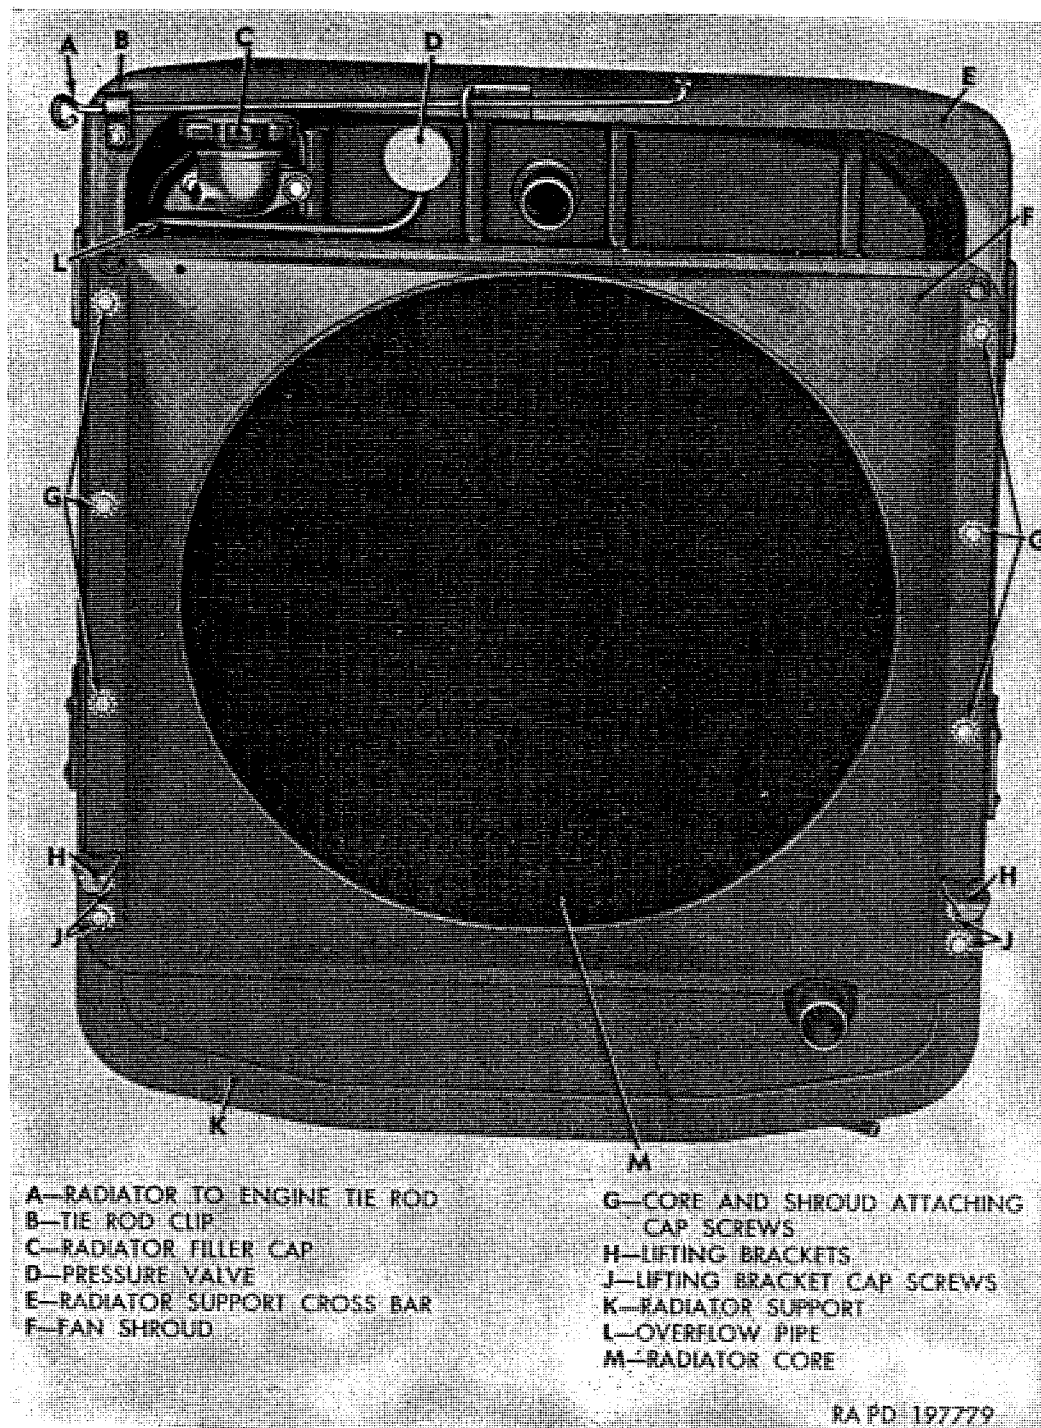

Figure 141. Radiator, support, and fan shroud.
- (1) *Removal.* Remove six cap screws (G, fig. 141) holding fan shroud to radiator. Loosen, but do not remove, four lifting bracket cap screws (J, fig. 141); then move top of shroud away from radiator. Remove four cap screws and lockwashers attaching fan blade assembly to hub; then lift fan blade assembly up between shroud and radiator.
- (2) *Installation.* Position fan blade assembly to fan hub and install four $\frac{5}{16}$ -18 x 1 cap screws with external-teeth lockwashers. Tighten cap screws evenly. Locate fan shroud with seal against radiator. Install six $\frac{5}{16}$ -18 x $\frac{7}{8}$ core and shroud attaching cap screws (G, fig. 141). Tighten all cap screws including four lifting bracket cap screws (J, fig. 141).
Note. The key letters noted in parentheses are in figure 141, except where otherwise indicated.